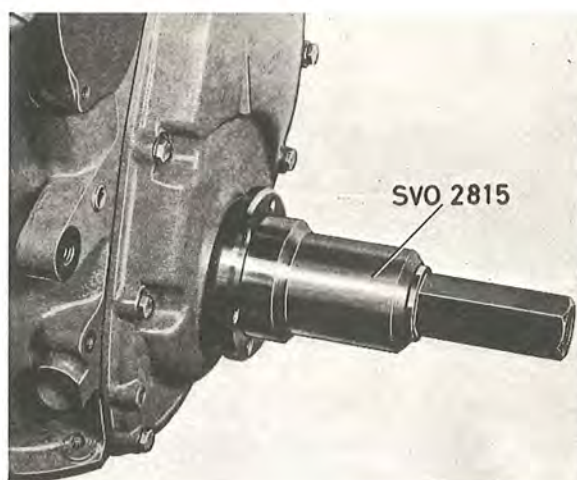

Fig. 2-33. Fitting the polygon hub
5. Fit the polygon hub with tool SVO 2815, see Fig. 2-33. Before fitting, the sliding surfaces of the polygon hub should be greased. **Note the marking**, that is, the centre punch marks on the crankshaft end and polygon hub. Fit the centre bolt and tighten it to a torque of 7–8 kgm (50–57 lb.ft.).